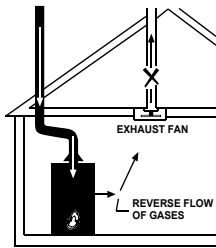

FIGURE 9.
- Do not locate the water heater near an air-moving device. The operation of air-moving devices such as exhaust fans, ventilation systems, clothes dryers, fireplaces, etc., can affect the proper operation of the water heater. Special attention must be given to conditions these devices may create. Flow reversal of flue gases may cause an increase of carbon monoxide inside of the dwelling (Figure 9).